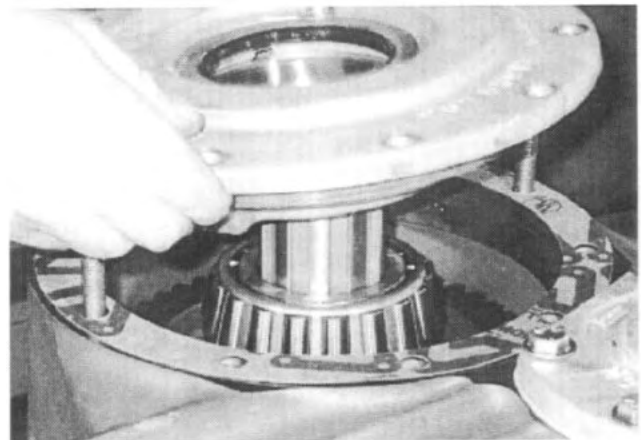

Fig. 91
30. Install a new gasket. If removed, install a new seal into the input carrier. Install the input carrier assembly onto the transfer case. Install and torque to specifications the input carrier hardware. See Fig. 91.